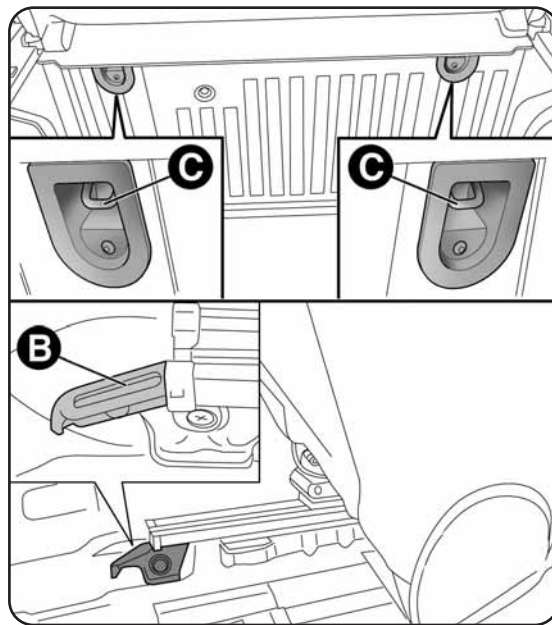

fig. 14
- for the passenger side front seat: fasten the upper belt (that is supplied together with the child seat) to the dedicated mounting B-fig. 14 located at the bottom, near the front seat sliding guide;
- for the rear seat: fasten the upper belt (that is supplied together with the child seat) to the special mountings C-fig. 14 located at the rear of the backrest.